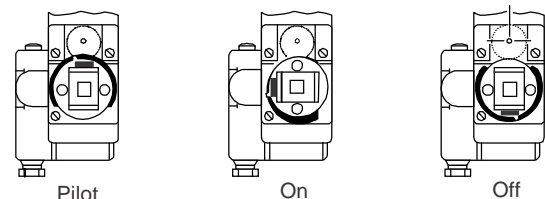

Figure 2: Model H43G Handle Positions
2. For Model H43G_, pilot and the main burner gas are shut off when the valve is in the "OFF" position. To turn the valve off, push in the handle, compressing the spring completely and turn it counter clockwise to the "OFF" position (see Figure 2 for handle positions). The H43G model does not have a lock button. Wait at least 5 minutes for unburned gas to escape from the appliance. To go to the "PILOT" position from the "OFF" position, rotate the handle counter clockwise 180°. Do not push down while doing so. To reset the power unit, push down on the reset button for 30 to 45 seconds until pilot remains burning. Rotate the handle counter clockwise 90° to open gas to the main burner.